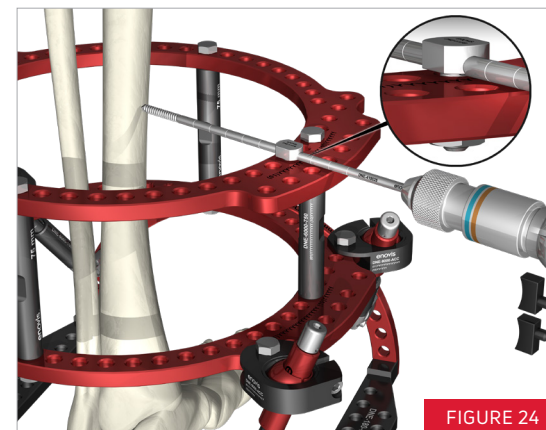

FIGURE 24
4. The appropriate sized half pin is inserted through the fixation bolt, soft tissue track, and drilled into the first bony cortex (**FIGURE 24**).